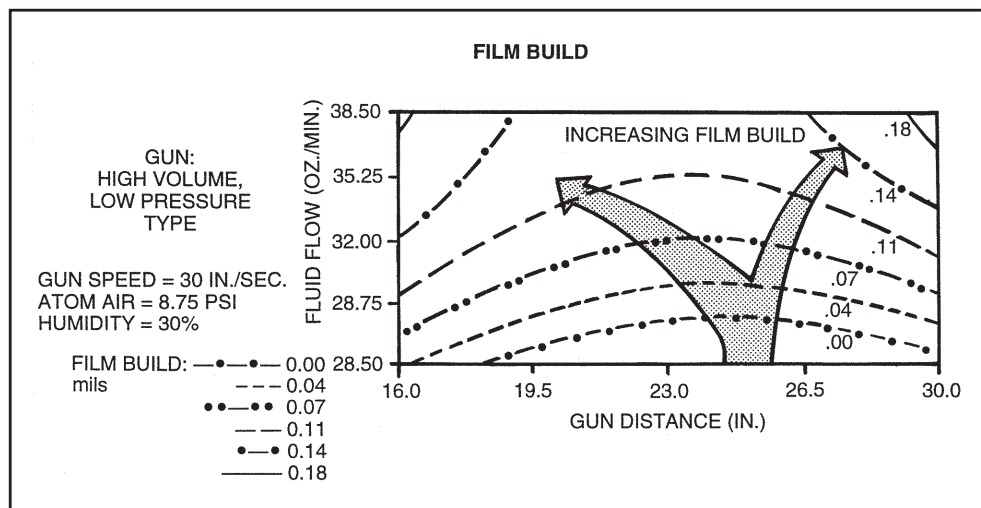

Figure A-6
- The shorter the distance from the gun to the target, the greater the film build. (See Figure A-6.)